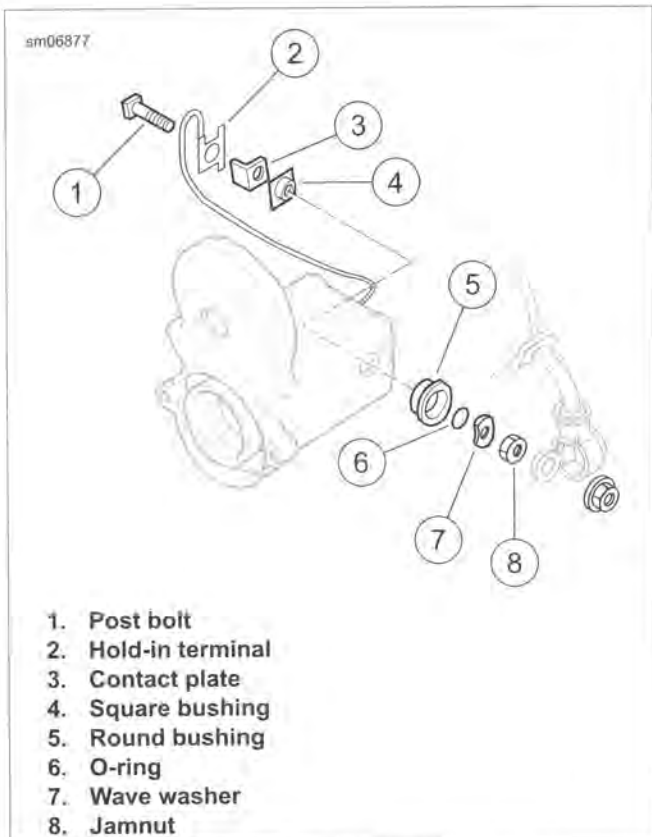

Figure 7-11. Short Post Contact (starter)
- b. See Figure 7-11. Remove jamnut (8), wave washer (7), O-ring (6) and round bushing (5).
- c. Remove the post bolt (1).
- d. Remove the hold-in terminal (2) from the post bolt.
- e. Remove the contact plate (3) and the square bushing (4).